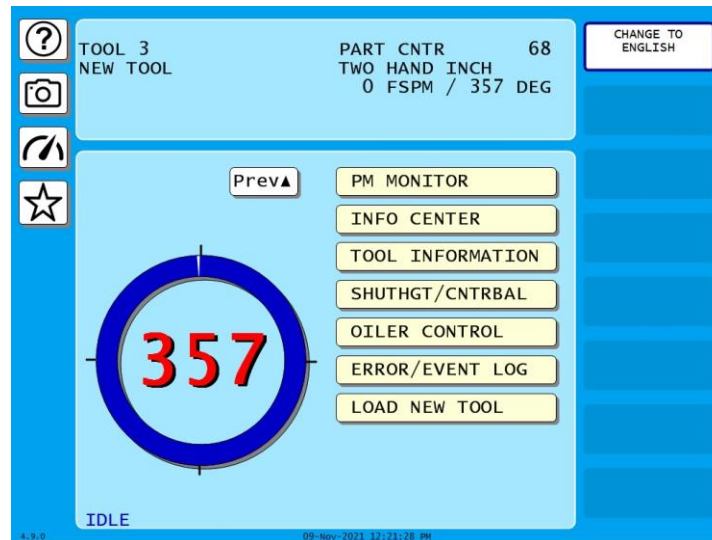

Figure 16. Main Run Mode Menu Showing Oiler Control
3. Select OILER CONTROL from the Main Run Mode Menu (see Figure 16).